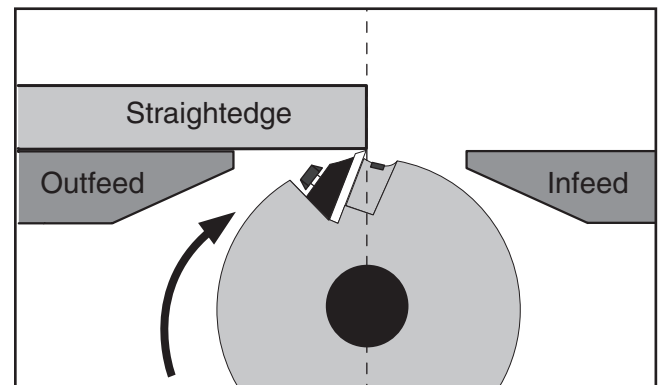

Figure 16. Illustration of a typical outfeed table alignment setup.
- Rotate the cutterhead under the straightedge until one of the knives is at top dead center, as illustrated in **Figure 16**.